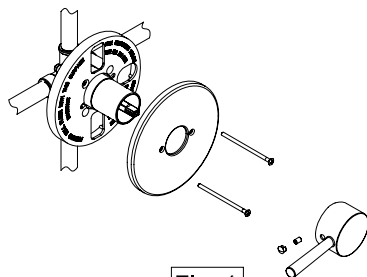

Fig .4
C. Install the handle assembly (see Fig. 4 ).